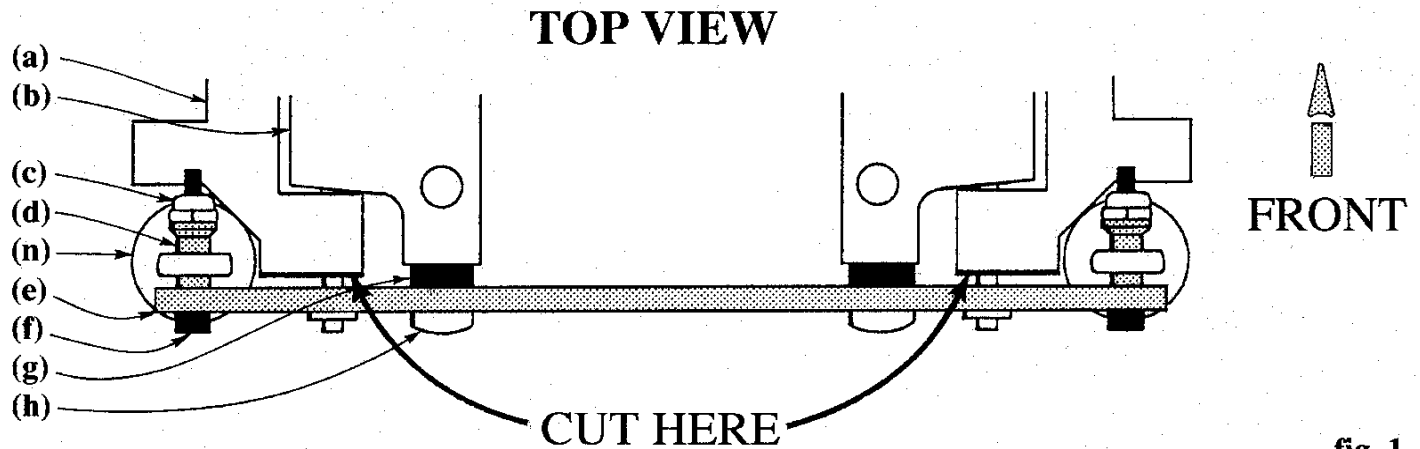

fig. 1
STEP 2 If you have not already done so, cut off the left and right "A" arms (a) with a saw or Dremel where shown at the bold line in fig. 1.
STEP 4 We suggest at this point that you change the oil to 30 wt. (#5414) and the springs to 1" x .045 springs (#5468) for this configuration. With your tie rod steel ball joints (d) on your shocks (n), mount the shocks onto the forward side of the shock mount plate (e) with the accompanying hardware (c & f) as shown in fig. 1. Now we can mount the bottom of the shocks on the shock mount plate as follows.